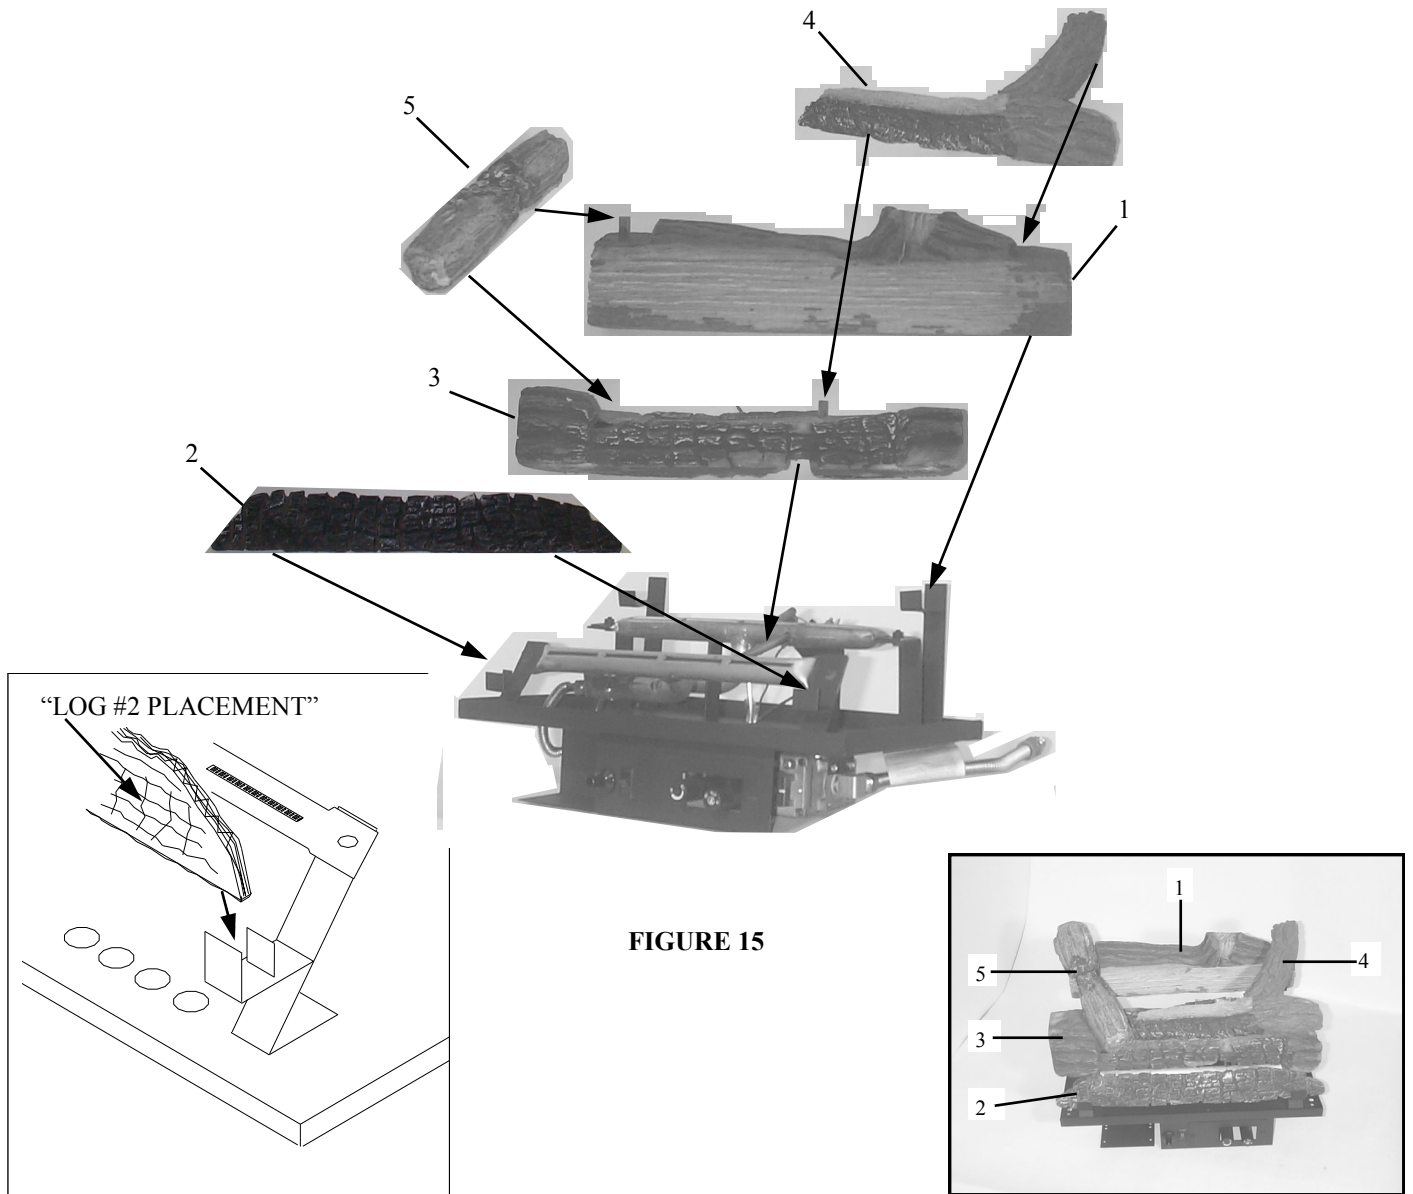

FIGURE 15
1. Carefully insert logs through opening in top of unit, placing logs on base as described on (Page 15, figure 15).
POSITIONING LOGS IS VERY CRITICAL, (SEE FIGURE 15) LOG PLACEMENT FOR LOG SET